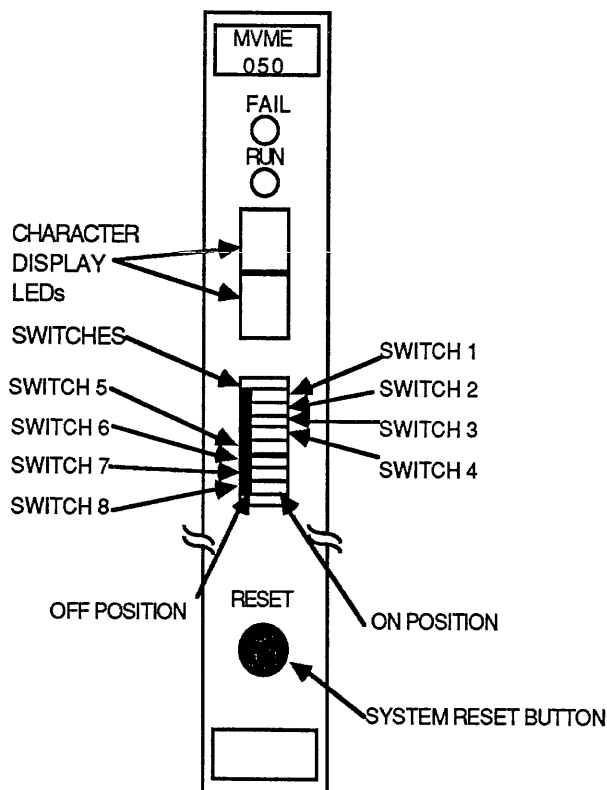

Figure 3.1.1-1 *MVME050 Board with Autoboot Mode Switch Settings*
If the CIG is powered down, proceed to Step 2 to power up. However, if the CIG is already powered up, turn the switches OFF as in Figure 3.1.1-1. Then press the RESET button on the MVME050 board so the new switch settings take effect. (Skip to Step 3.)
- 2) To power up the CIG, turn ON the main breaker, the 6U power switch, and the 9U power switches, in this order. See Figure 3.1.1-2 for 120-T switch locations and Figure 3.1.1-3 for 120TX/T switch locations.